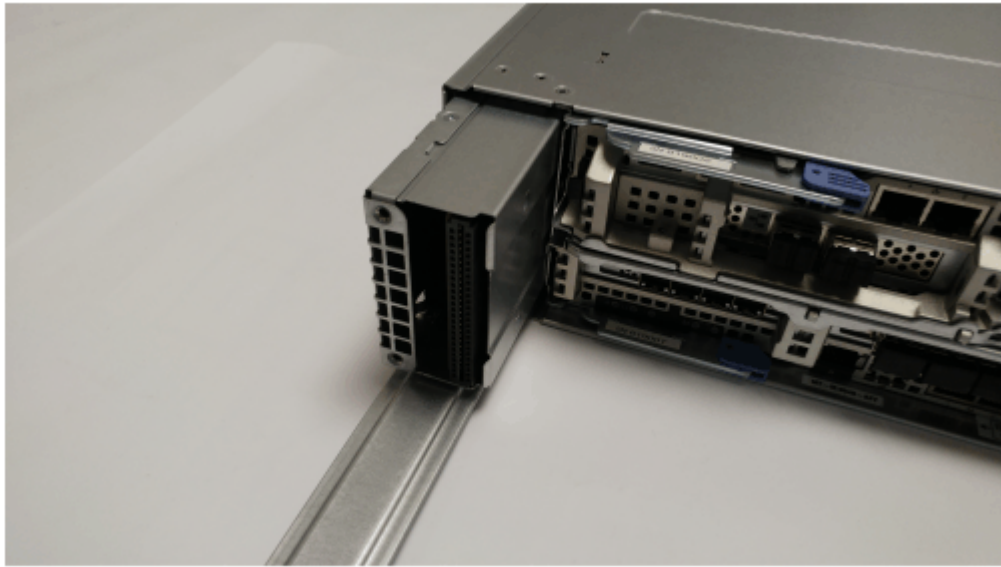

Figure 89. Removing a power interposer
3. Slide the power interposer out until it is clear of the enclosure rear, as shown in Figure 89 on page 141.